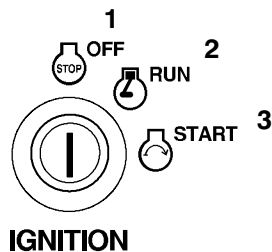

Figure 17
- Turn the ignition key to “OFF” (Fig. 17).